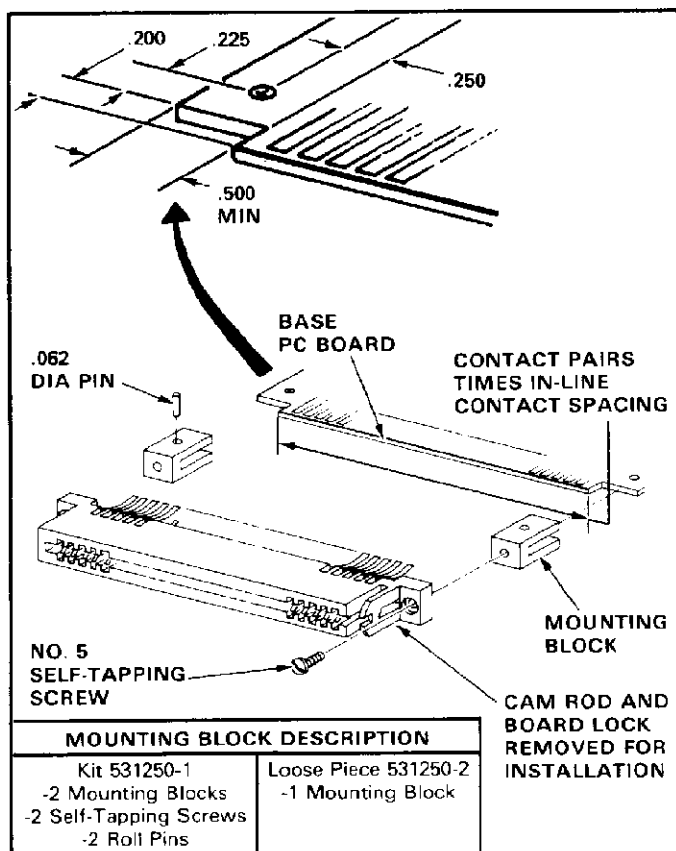

Fig. 5
Accessories include keying plugs for C-C connectors that provide connector polarization, protective covers that keep debris out of unused connectors, custom cam rods that are used to actuate several connectors mounted end to end, and mounting blocks for attaching card edge connectors to the edge of pc boards. See Figures 5, 6, 9, 11, 12, and 13.
#### B. Edge Mounting (Card Edge Contacts – Figure 5)
3. If the connector has mounting ears, secure it to the pc board using AMP Mounting Bracket 531250 (see Figure 5).
### 9. MOUNTING BLOCK INSTALLATION (Figure 5)
AMP Mounting Blocks 531250 are designed to hold edge-mount connectors to pc boards. To install them, first make a cutout on the edge of the pc board using the dimensions shown in Figure 5. Attach the mounting block to the board with .062-in.-diameter pins. Use No. 5 self-tapping screws to secure the connector to the mounting blocks.